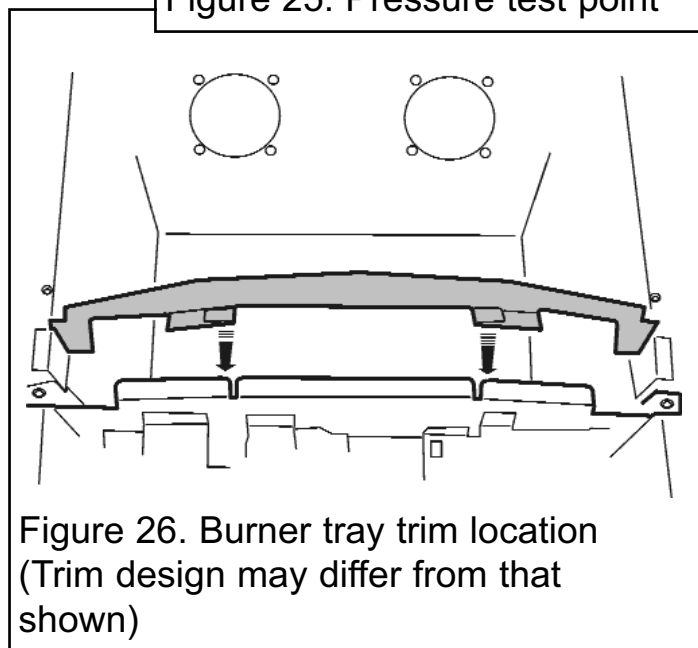

Figure 26. Burner tray trim location
5. Fit the burner baffle to the front flanges of the burner. To do this, locate the tags on the baffle over the front flanges of the burner and lower into position (See figure 26).